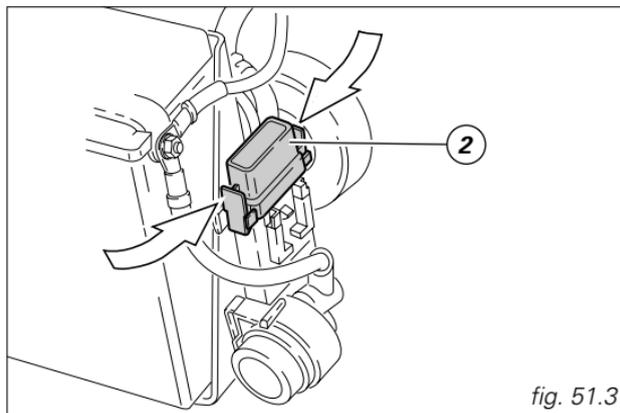

fig. 51.3
The fuse located on a side of the battery (fig. 51.3) protects the electronic regulator. Remove the fuse cap (2) to expose it.